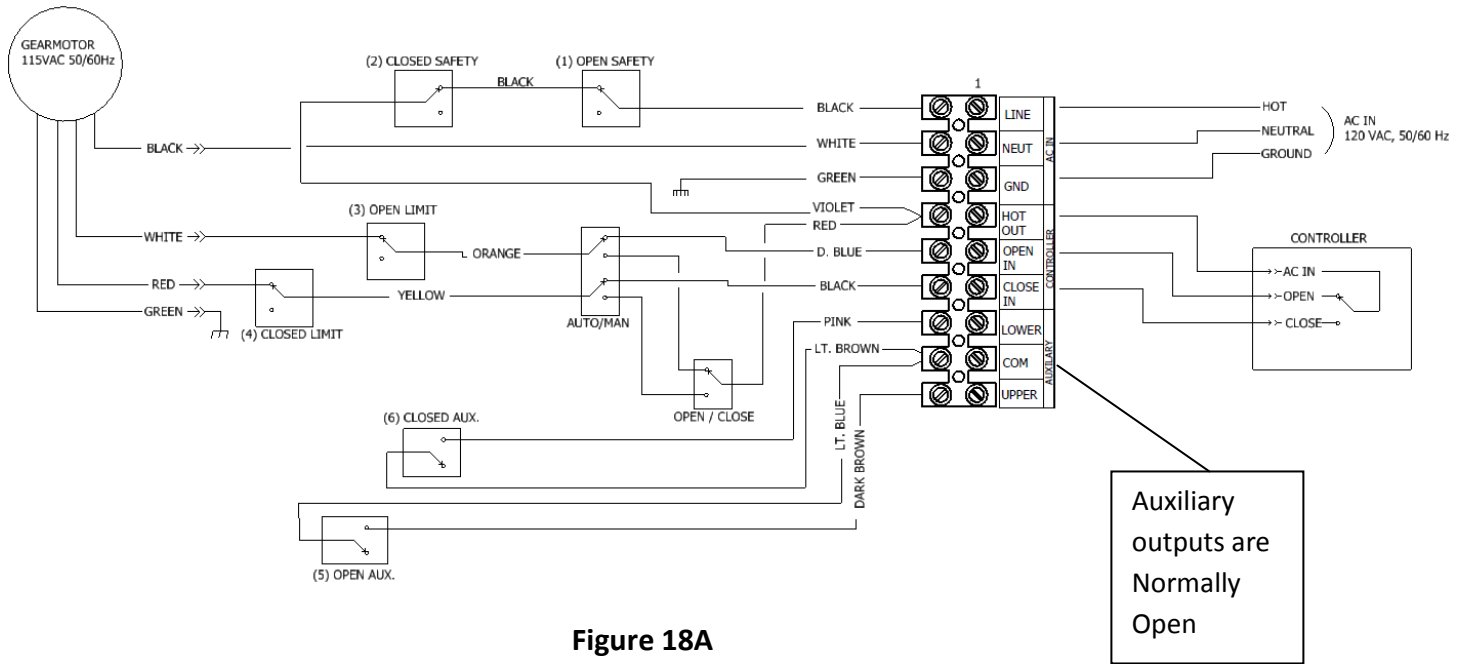

Figure 18A
11. Connect wiring to machine per **(Figure 18A or 18B)** depending upon input voltage. All wiring must be done in accordance to national and local electrical codes.